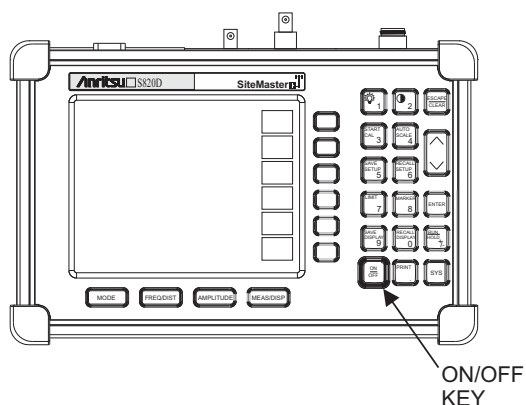

Figure 3-1. Site Master On/Off Key
- Step 1.** Press the **ON/OFF** front panel key (Figure 3-1).
- Step 4.** Press the **ON/OFF** front panel key (Figure 3-1).